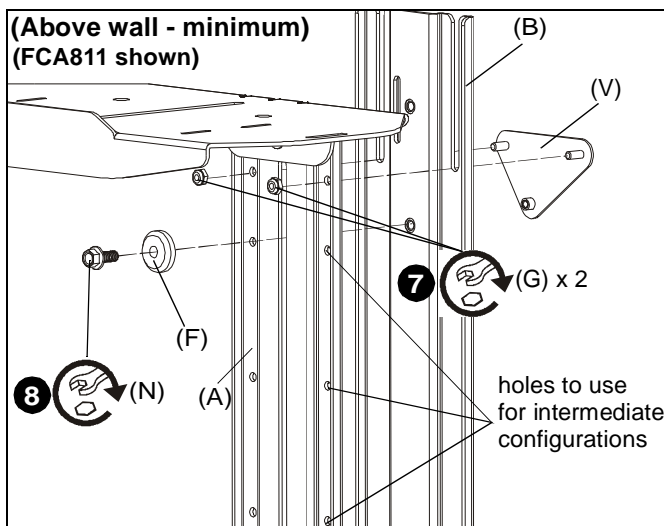

Figure 19
- (For **minimum/intermediate extension**) Use two #10-24 lock nuts (G) to secure upright bracket (A) to main bracket (B) and adapter plate (V). (See Figure 19)
- (For **minimum/intermediate extension**) Use 1/4-20 x 5/8" hex head flange bolt (N) and center washer (F) to secure upright bracket (A) to main bracket (B). (See Figure 19)